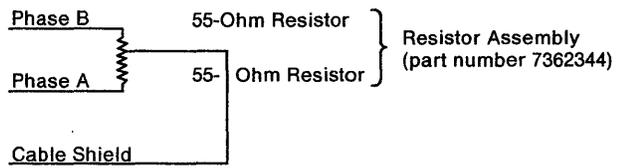

Figure 3-59. Terminating a Cable
5. When checking shield continuity, you should connect the remote end of the cable to a work station, or you should terminate it as shown in Figure 3-59 on page 3-132.